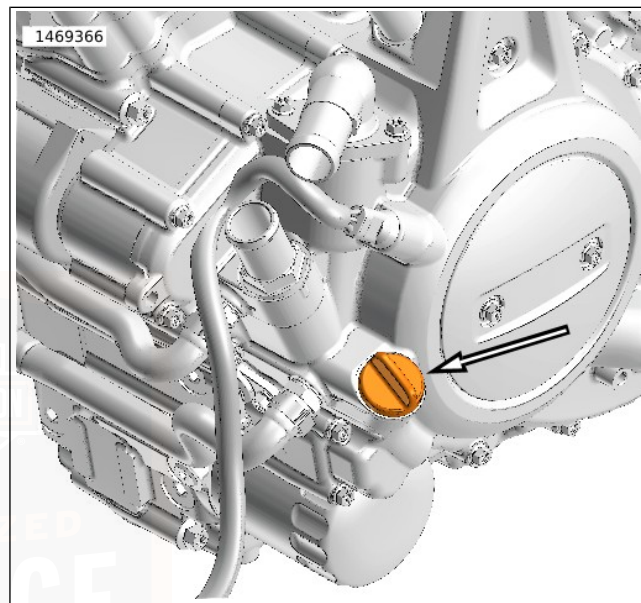

Figure 42. Engine Oil Filler Plug/Dipstick
- a. Figure 42 Remove engine oil dipstick.